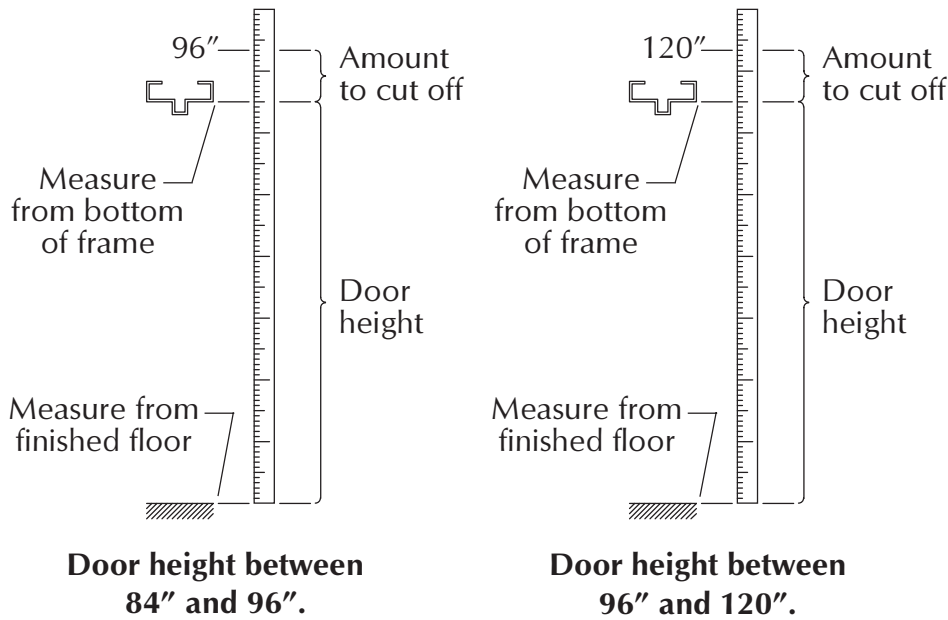

Figure 9-1
- 9.1. Find amount to cut off rod extension (Figure 9-1).